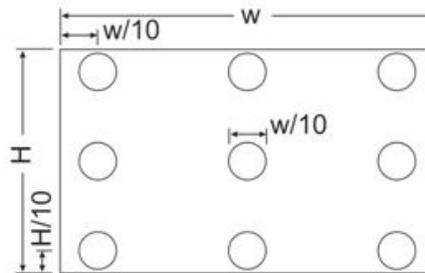

Figure 4. Testing regions for brightness and uniformity.
Brightness (L) is the average measured luminance of 9 testing regions (Fig. 4) evenly distributed throughout the display.
L (Max) = Maximum Luminance in 9 measured testing regions shown in Fig. 4
L (Min) = Minimum Luminance in 9 measured testing regions shown in Fig. 4